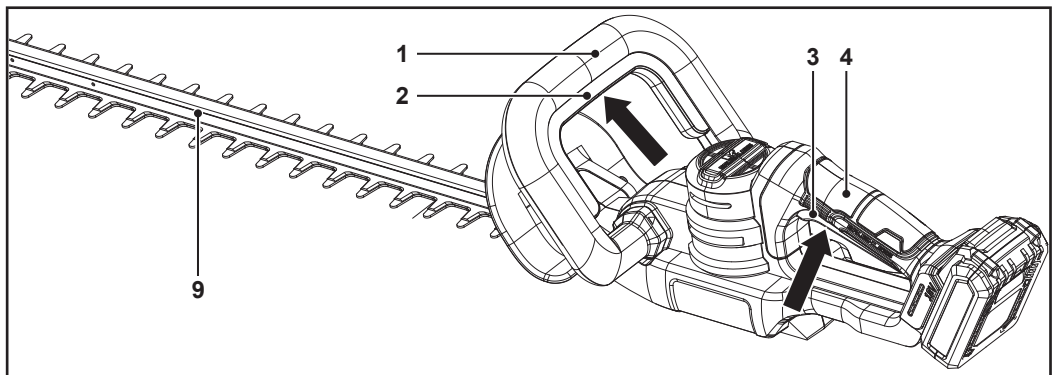

Fig. 5
Safety switch (2), on/off switch (3): Hold the machine properly with both hands at the front handle (1) and at the rear handle (4). The machine can operate only if both switches (2, 3) are pressed and hold simultaneously (Fig. 5). If any switch is released the machine stops immediately.
NOTE: The machine can operate only if both switches (2, 3) are pressed and hold simultaneously (Fig. 5). If any switch is released the machine stops immediately.
1. Hold the machine properly with both hands at the front handle (1) and at the rear handle (4) (Fig. 5).
2. Press and hold the safety switch (2) (Fig. 5).
3. Press and hold the on/off switch (3) (Fig. 5).